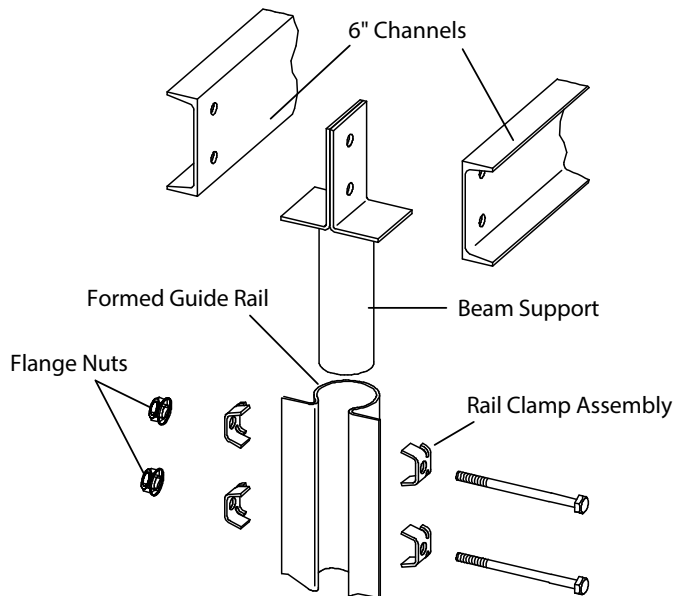

Figure 25 - Support Beam Mounting
8. Install the support beam mounting assembly for hoisting and setting the jack. See Figure 25.